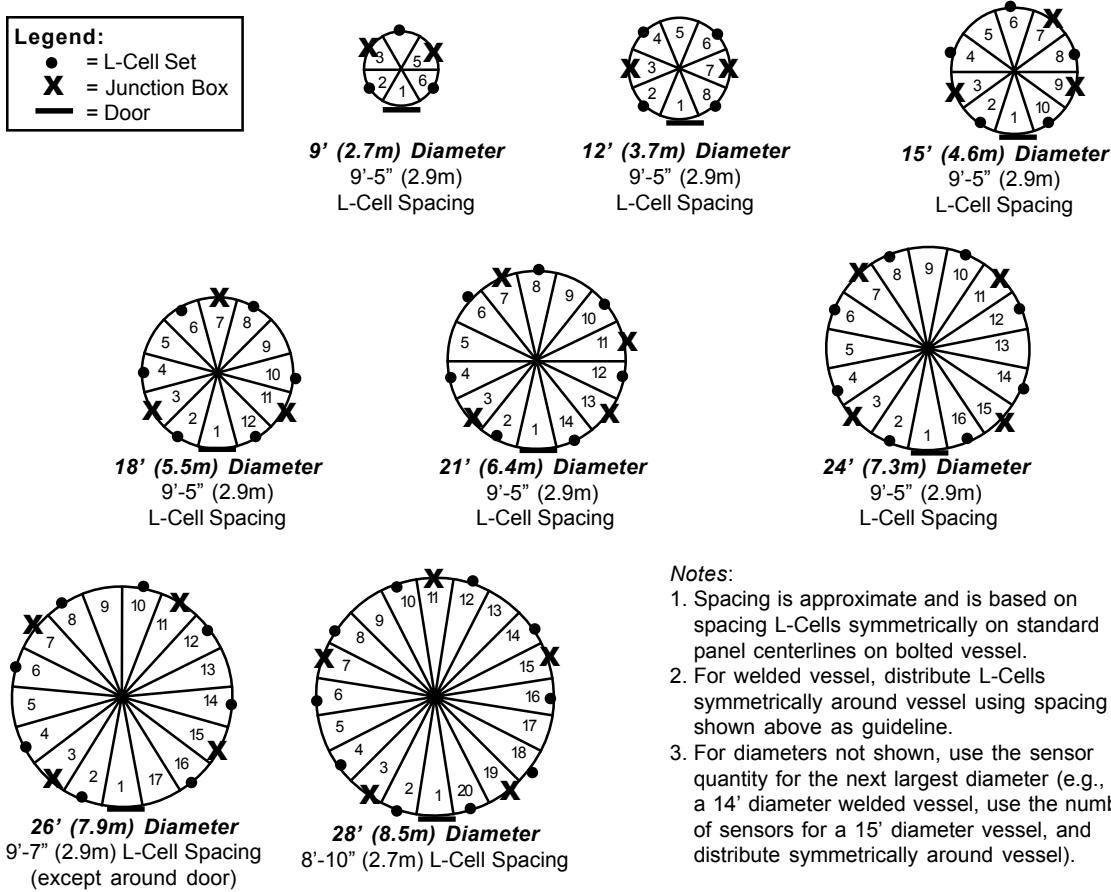

Figure 5-3. Plan View — L-Cell and Junction Box Locations (Carbon Steel)
See Figures 5-3 and 5-4. The skirt-supported vessel manufacturers' industry has standardized on bolted, skirt-supported vessel diameters and number of panels per diameter. Typically, the panels are approximately 5' (1.5m) wide x 8' (2.4m) high, with some overlap between panels. The mounting locations shown in Figures 5-3 and 5-4 are based on this industry standard.
Example: The Application Data Form indicates a 12' diameter bolted vessel. From Figure 5-3, a 12' bolted vessel has 8 panels around its circumference.
See Figures 5-3 and 5-4. The placement of L-Cells and junction boxes for welded vessels is similar to that for bolted. However, since there are no standardized panels, the L-Cell placement is based on the nominal distance between L-Cells shown in Figure 5-3.
1. From Figure 5-3, for a 12' diameter vessel, the spacing between sensors is approximately 9'-5". Locate L-Cell sets at 9'-5" spacings around the vessel, with the door centered between 2 L-Cell locations, for a total of 8 L-Cells (4 locations x 1 L-Cell set/location x 2 L-Cells/set).
1. From Figure 5-3, for the next largest size (a 15' diameter) vessel, there are 5 L-Cell locations. Calculate the L-Cell spacing for a 14' diameter vessel: $(p \times \text{diameter})/\text{number of locations} = \text{spacing}$ $(p \times 14')/5 \text{ locations} = 8.8' = 8'-9"$ spacing. Locate L-Cell sets at 8'-9" spacings around the vessel, with the door centered between 2 L-Cell locations, for a total of 10 L-Cells (5 locations x 1 L-Cell set/location x 2 L-Cells/set). (Where p = # of panels)